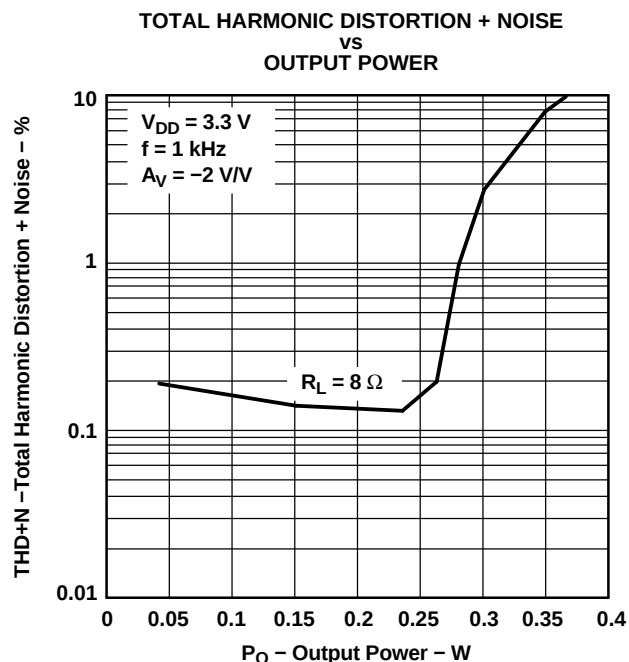

Figure 9.
| $P_O$     | Output power, See (1)THD = 0.5%, See Figure 9                                           |     | 250   |     | mW                 |